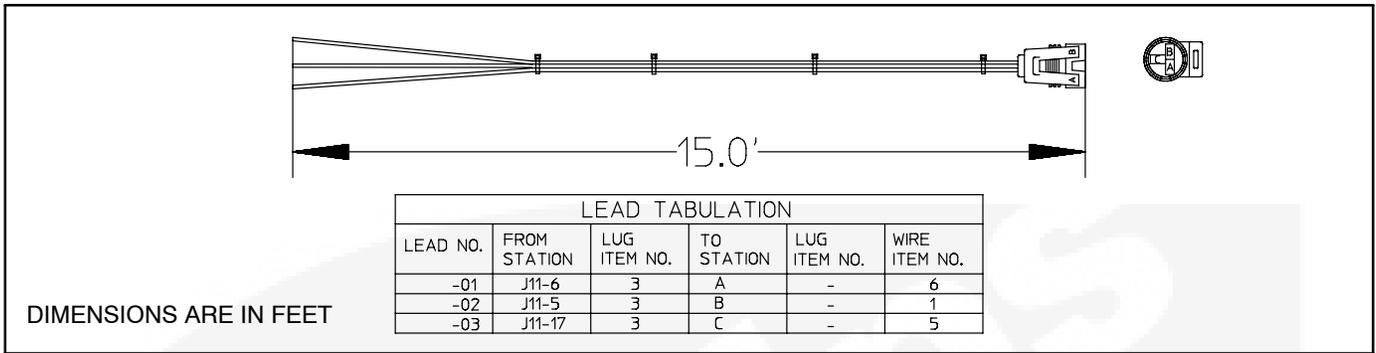

FIGURE 3-21. ACTIVE LUBE OIL PRESSURE SENSOR HARNESS
- b. Connect the color-coded control harness wires marked P11-5, P11-6, and P11-17 to the oil pressure harness wires marked J11-5, J11-6, and J11-17 (see Figure 3-21).